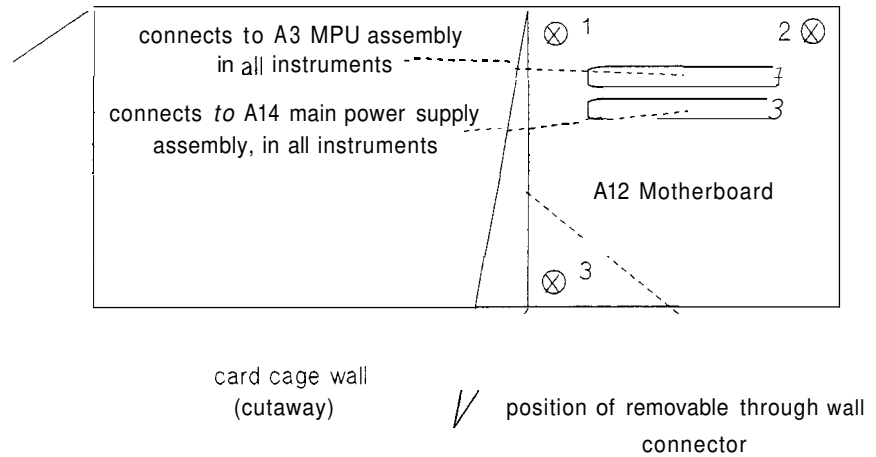

Figure 5-20. A12 Motherboard removal
2. Remove screws 1 to 4, shown in Figure 5-20. The A12 motherboard can then be freed of its through wall connector and lifted out.